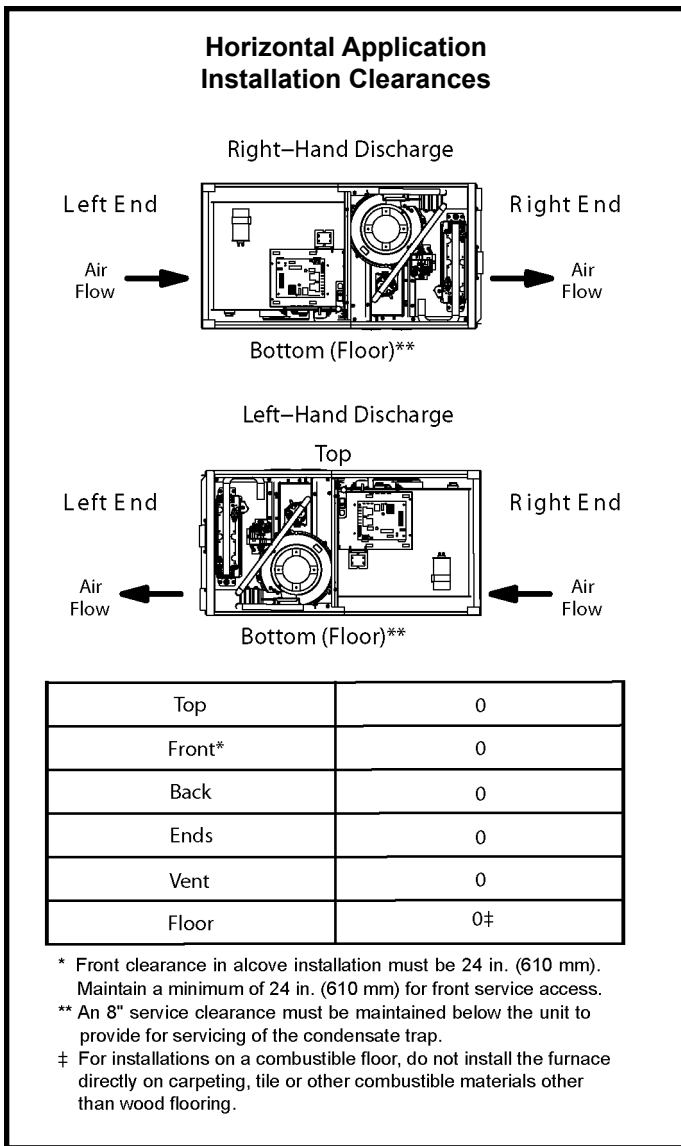

Figure 18
Refer to Figure 18 for clearances in horizontal applications.
1. Select location for unit keeping in mind service and other necessary clearances. See Figure 18.